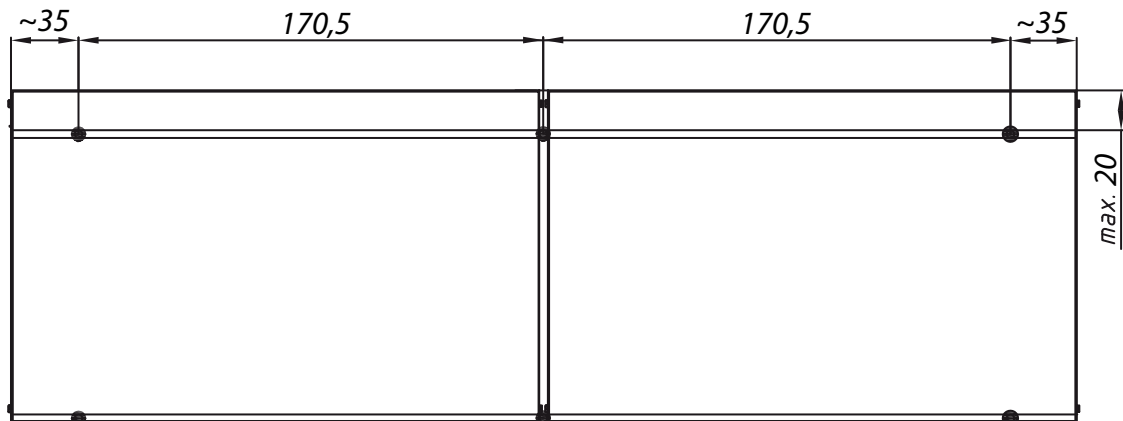
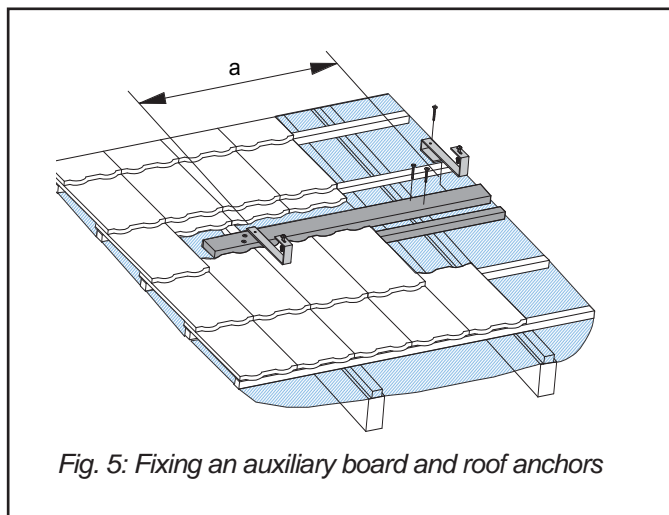

Fig. 2: Layout of roof anchors
Fig. 5: Fixing an auxiliary board and roof anchors
- Fix the auxiliary boards to battens so that the distribution of anchors resembles the positions in Fig. 2. At the same time screw the boards so high that the roof
- Hang the roof anchors onto the auxiliary board respecting their distribution shown in Fig. 2.
- Remove roofing in places where anchors shall be fixed (Fig. 5). The distance "a" between anchors is defined in Fig. 2.
- Depending on the number of collectors, measure and calculate the positions for fixing roof anchors (Fig. 2). Such places shall be selected for mounting where anchors can be fixed sufficiently into the roof frame (rafter or similar).